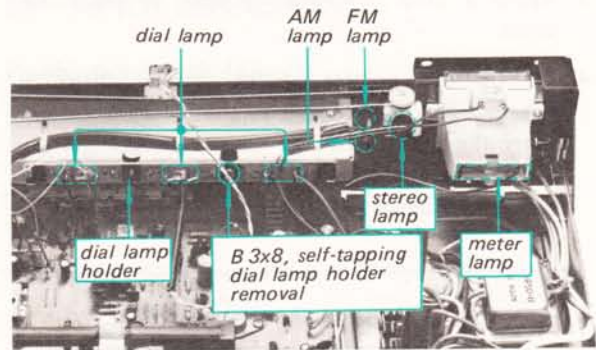

Fig. 2-3. Dial lamp replacement
1. Remove the screw shown in Fig. 2-3. This frees the dial lamp holder.